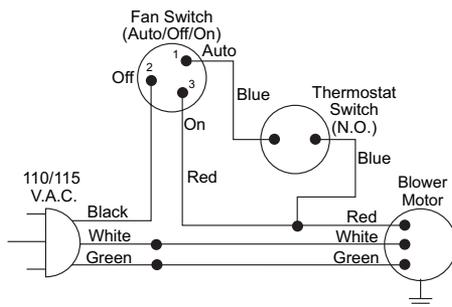

Figure 17 - Wiring Diagram For Blower Accessory Standard Installation
5. Carefully disconnect green and white wires at their insulated connectors (see Figure 17, page 15).